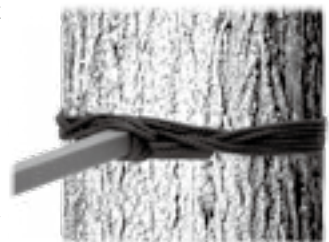

FIGURE 7
STEP 9: Locate one (1) 8' stabilizing rope (R). Secure the adjustable support bar assembly (S) "V" end to the tree using the 8' stabilizing rope (R) as shown in Figure 7.